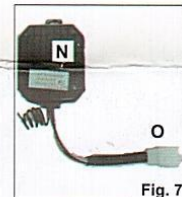

Fig. 7
6. Locate the remote receiver (Fig. 7, N) and its cable (Fig. 7, O).